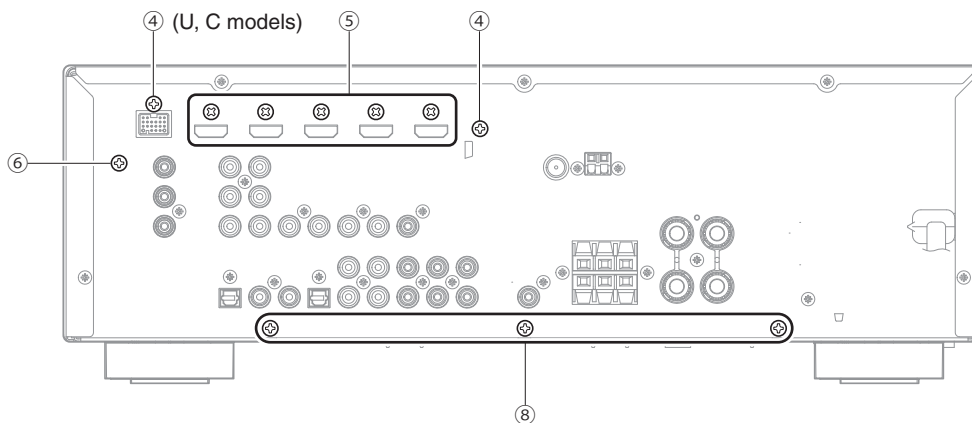

Fig. 3
- b. Remove 2 screws (⑥)/1 screw (R, T, K, A, B, G, L models) (④) and 5 screws (⑤). (Fig. 3)
- b. Remove screw (⑥) and 2 screws (⑦). (Fig. 3)
- b. Remove 3 screws (⑧). (Fig. 3)